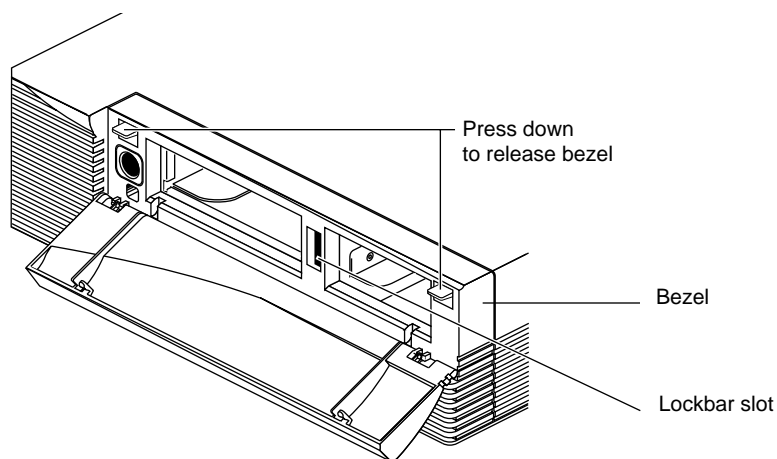

Figure 3-3 Releasing the Bezel
- Press down on the tabs on each side of the bezel, as shown in Figure 3-3.